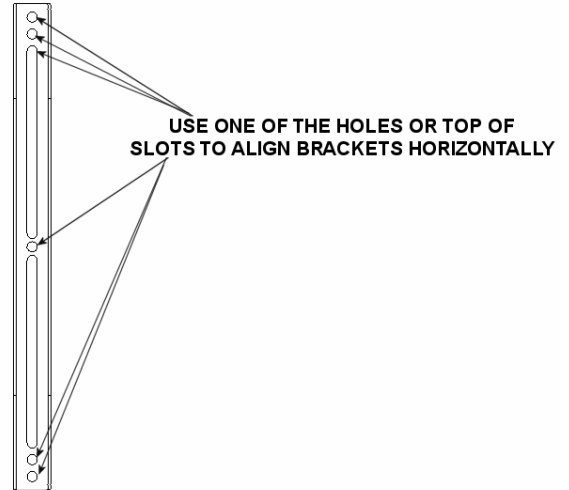
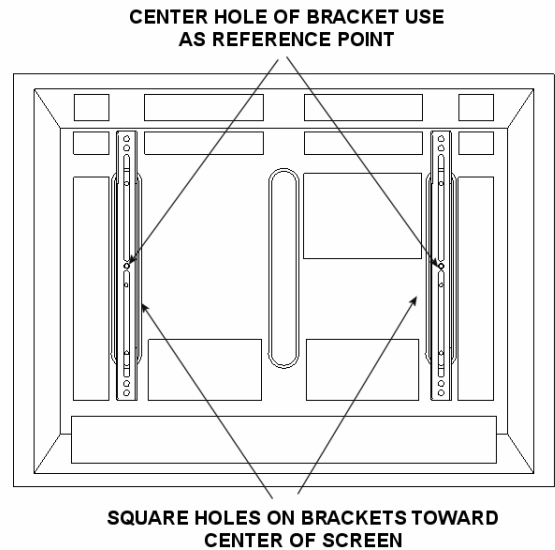

Figure 2. Place Brackets on Display
Figure 3. Align Holes
1. Place the interface brackets (20 and 30) on the back of the display, aligning one of the holes or top of the slots as a reference point to align horizontally with the square holes facing toward the center of the display (see Figure 2 and Figure 3).